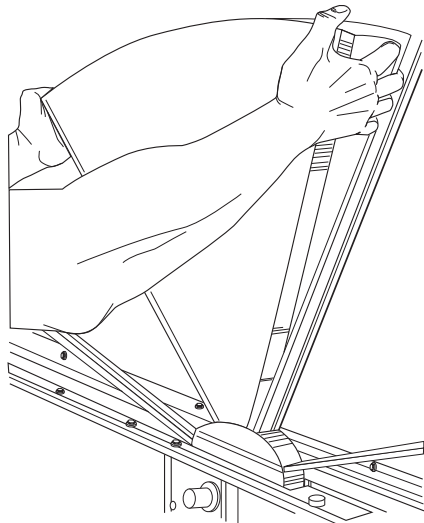

Fig. 34 — Inserting a Segment of the Wheel
1. Begin by positioning one segment opening at the top of the cassette. Unlock and open the segment retaining brackets on both sides of the selected segment opening. Holding the segment as vertical as possible and centered between spokes, insert nose of segment downward between the hub plates. See Fig. 34.